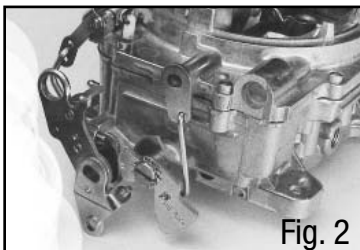

Fig. 2
4. Compare the throttle arm of your new carburetor with the old one to be sure that all required linkages will hook up properly (See Fig 2). Install the proper throttle and transmission linkage for your particular application. Throttle stud is removable and must be reinstalled in the proper location.